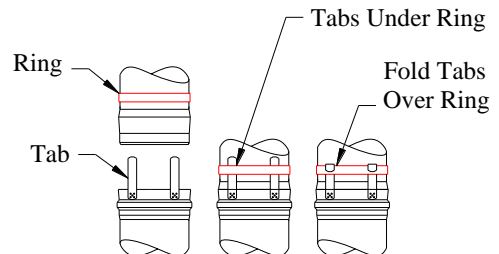

Fig 5A. (Ring and Tab Joint)
1. Connect parts using the Ring and Tab Connection Method. See Fig 5A.